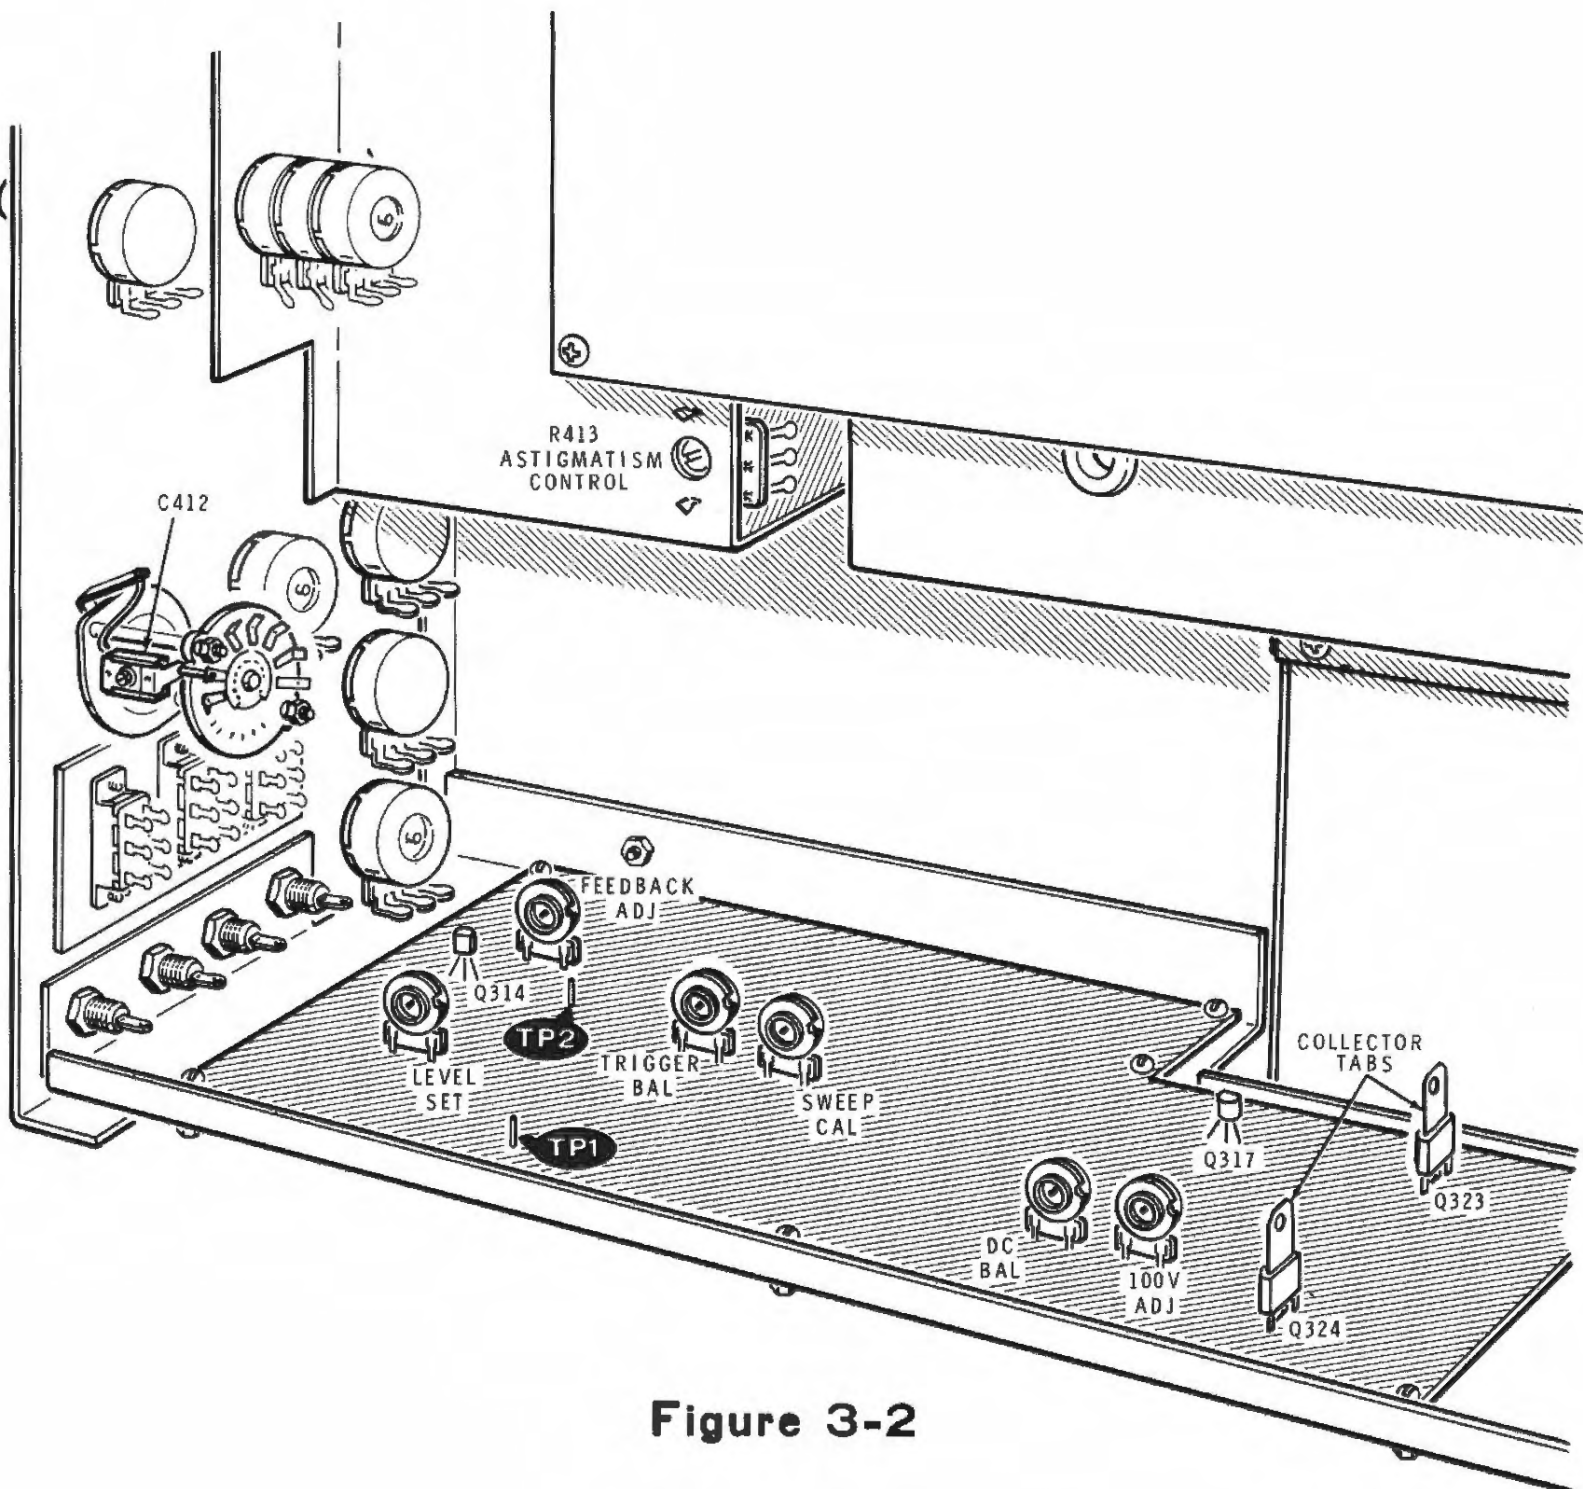

Figure 3-2
- () Refer to Figure 3-2 (fold-out from Page 3-53) and connect the common voltmeter lead to the Oscilloscope chassis and the positive lead to TP1 (base of transistor Q304). Set the voltmeter range to +20 volts. Then adjust the LEVEL SET control for zero volts. Reset the voltmeter range to +2 volts; then again adjust the LEVEL SET control for zero volts.
- () Refer to Figure 3-2 and adjust the TRIGGER BAL control until the signal on the CRT is stabilized or "synchronized." This will be a condition where the sine wave displayed is steady and unshifting.
- () Adjust the TRIGGER BAL control (Figure 3-2) until the signal on the CRT locks in. Switch the SLOPE switch between the “+” position and the “-” position while you further adjust the TRIGGER BAL control until the trace starts at the same point in both switch positions.
distance above and below the centerline of the graticule. If it does not, adjust the LEVEL SET control (Figure 3-2) until the traces for the switch positions are the same distance above and below the centerline.
- () Adjust the SWEEP CAL control (Figure 3-2) for a display of one cycle on the CRT. NOTE: The accuracy of the time base is directly related to the accuracy of the 1000 Hz input signal.